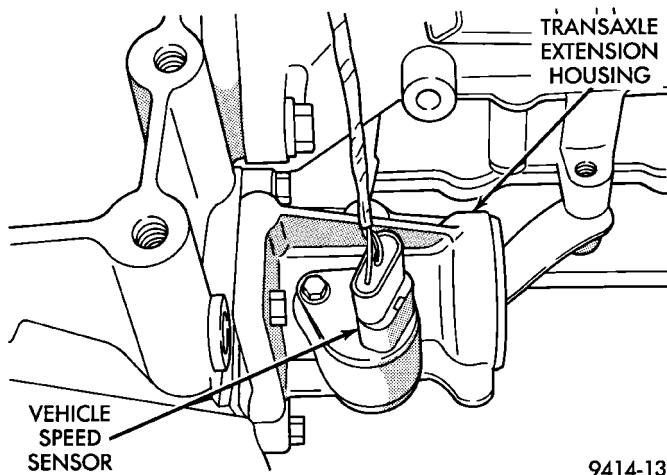

Fig. 46 Vehicle Speed Sensor
(19) Check the electrical connection at the vehicle speed sensor (Fig. 46).